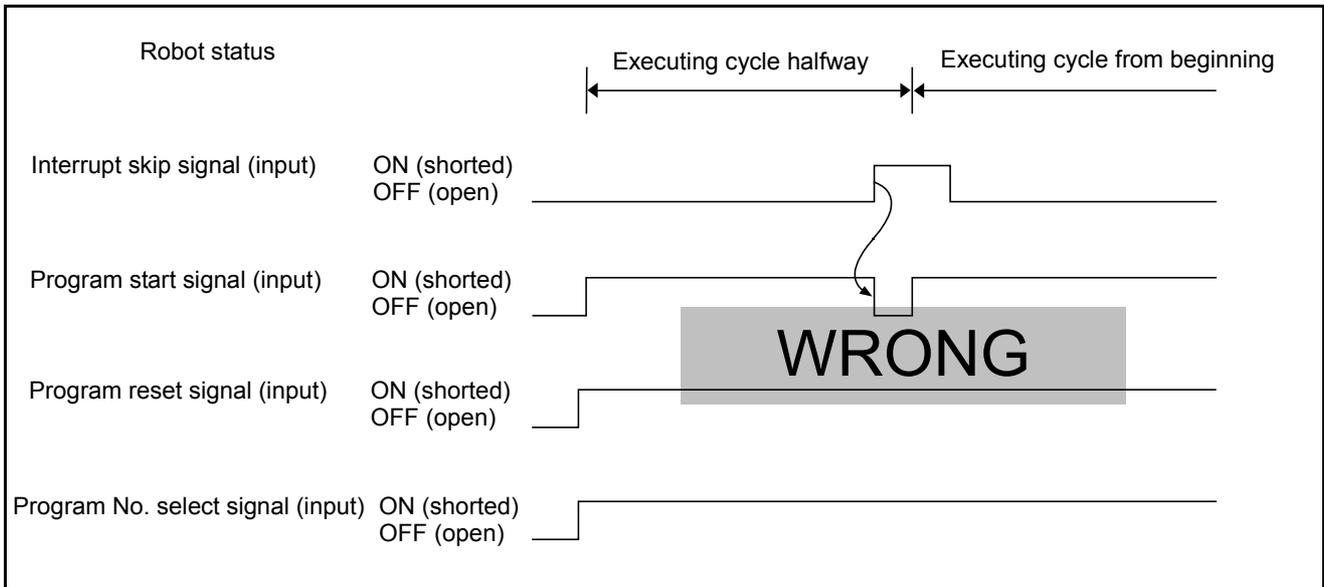

Figure 5-14 Example of Operation When an Interrupt Skip is Input
**⚠ Caution:** When turning ON (shorting) the interrupt skip signal, at a minimum either the program reset signal or the program start signal must be turned OFF (open). If the interrupt skip signal is turned ON, the robot interprets the program start signal as immediately turned OFF (open). Consequently, the program selected with the program No. selection signal will be executed from the beginning. (See Figure 5-14 below.)